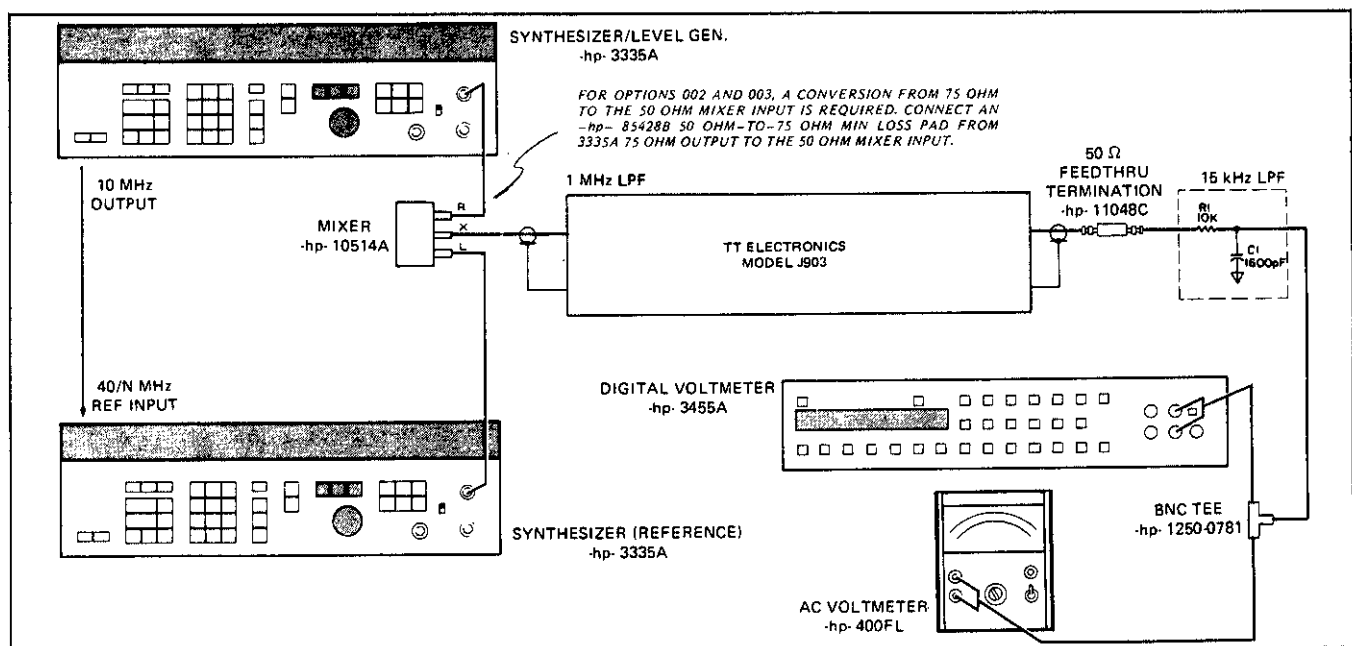

Figure 4-2. Integrated Phase Noise.
4-14. This performance test ensures the 3335A meets the integrated phase noise specifications of Table 1-1. The specifications are for a 30 kHz band, excluding ± 1 Hz, centered on the carrier. The test set-up uses another 3335A in addition to the one under test as a reference. Any synthesizer with a noise floor equivalent to the 3335A can be used as a reference. (See required characteristics, Table 1-3). The reference and the tested signal are mixed and the difference signal is applied to a wideband ac voltmeter and a dc digital voltmeter through two filters (see Figure 4-2). The 1 MHz filter used in the test is available commercially (see Table 1-3). The 15 kHz filter must be constructed.
- Connect the test set-up shown in Figure 4-2.